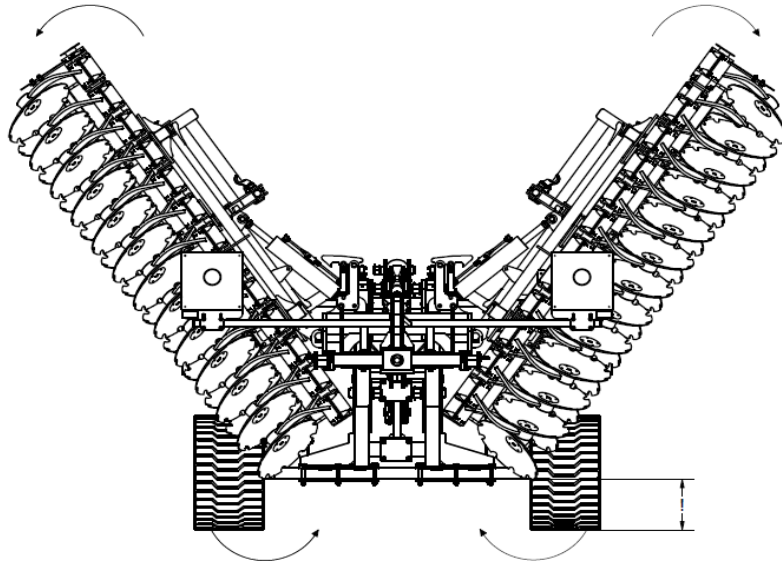

Fig. 22 Implement opening sequence: open the implement paying particular attention to the height of the arm ends from the ground.
4. When opening the implement's side extension arms, make sure that the ends of the arms are at the correct height to prevent them from snagging on the ground (Fig. 22).